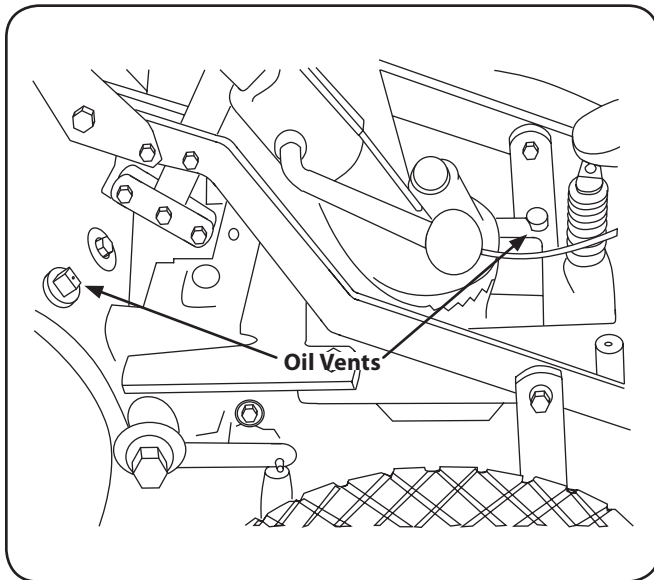

Figure 6-5
- If tilling during very hot weather, the gear oil may heat up and expand inside the transmissions. To allow for this oil expansion, both the power unit transmission and the tine attachment transmissions have oil relief vents. See Fig. 6-5.